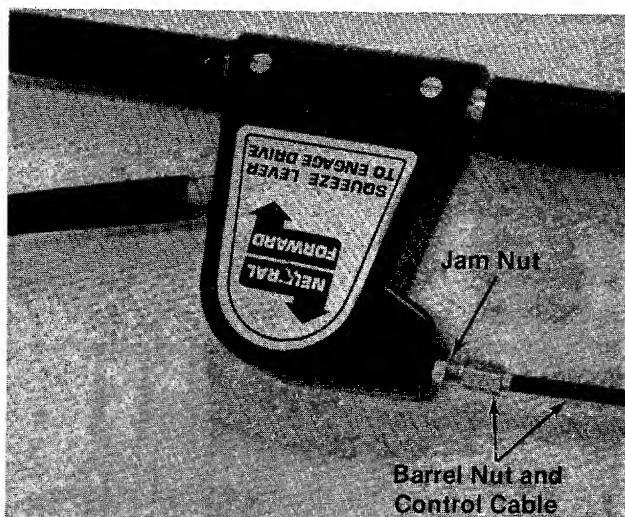

FIGURE 17
1. To increase belt tension, loosen jam nut and backoff two or three threads. (See figure 17.)